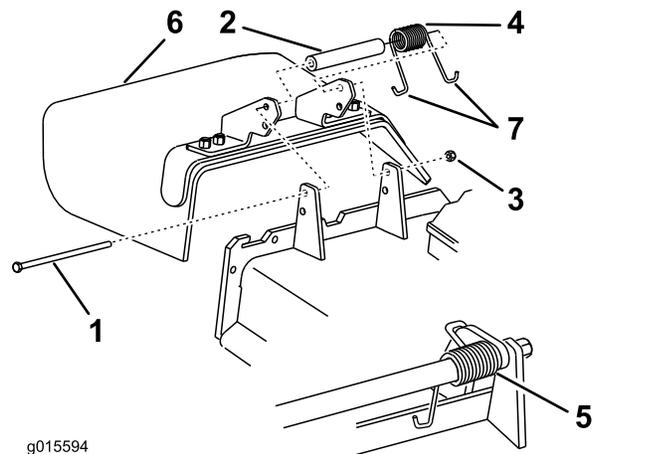

Figure 121
1. Remove the locknut, bolt, spring, and spacer holding the deflector to the pivot brackets (Figure 121).
2. Remove the damaged or worn grass deflector (Figure 121).
**Note:** Make sure that 1 J-hook end of the spring is installed behind the deck edge before installing the bolt as shown in Figure 121.
6. Place 1 J-hook end of the spring around the grass deflector (Figure 121).